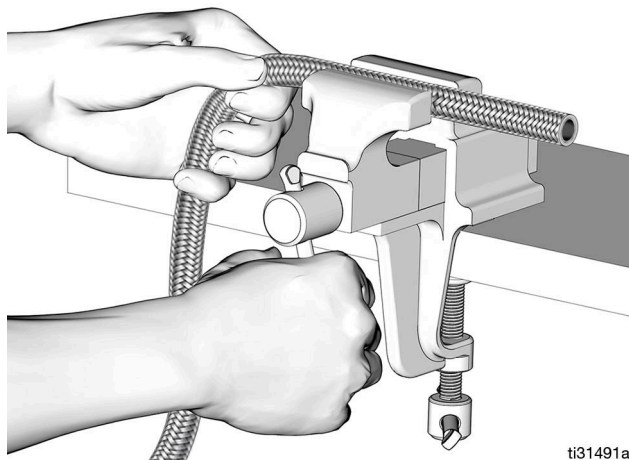

FIG. 63
1. Secure end of hose in a vise (FIG. 63).